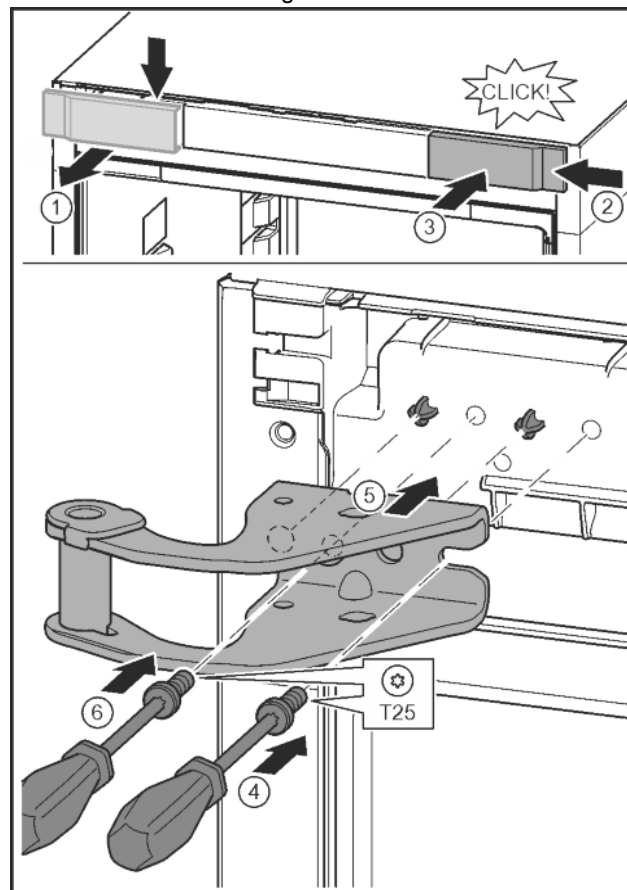

Fig. 13
- Release the cover and remove from the side. Fig. 13 (1)
- Rotate the cover 180° and clip onto the other side from the right. Fig. 13 (2)
- Click the cover into place. Fig. 13 (3)
- Position the screw with a T25 screwdriver. Fig. 13 (4)
- Position the upper bearing bracket. Fig. 13 (5)
- Tighten the screw. Fig. 13 (6)
- Insert the screw with a T25 screwdriver and tighten. Fig. 13 (7)